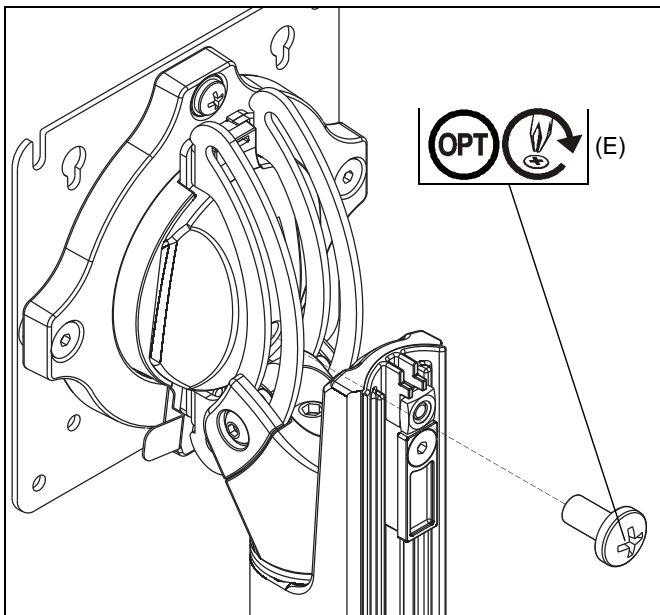

Figure 9
**NOTE:** In order to prevent display from being easily removed from mount using the quick release lever, install M4x4mm security screw (E) into lower hole on back of faceplate. (See Figure 9)